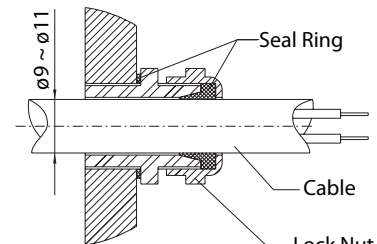

Figure 2
- Refer to figure 2 for installation of cable directly into unit (No Conduit).